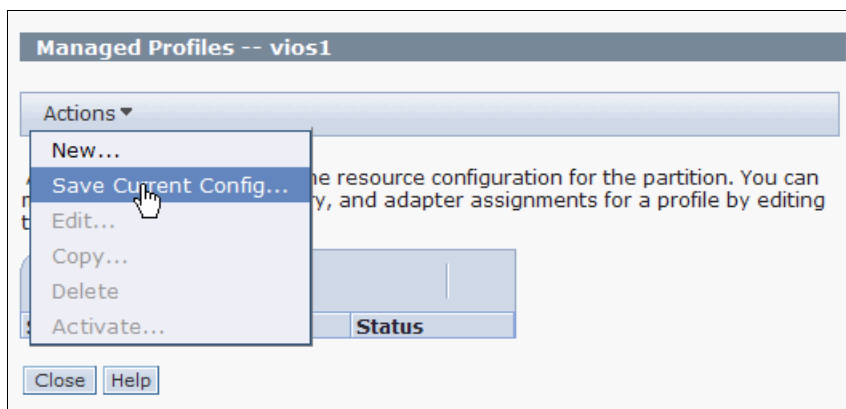

Figure 5-21 Saving the current configuration to a profile in the HMC
- b. In the new pop-up window, select **Actions** → **Save Current Config**, as shown in Figure 5-21.